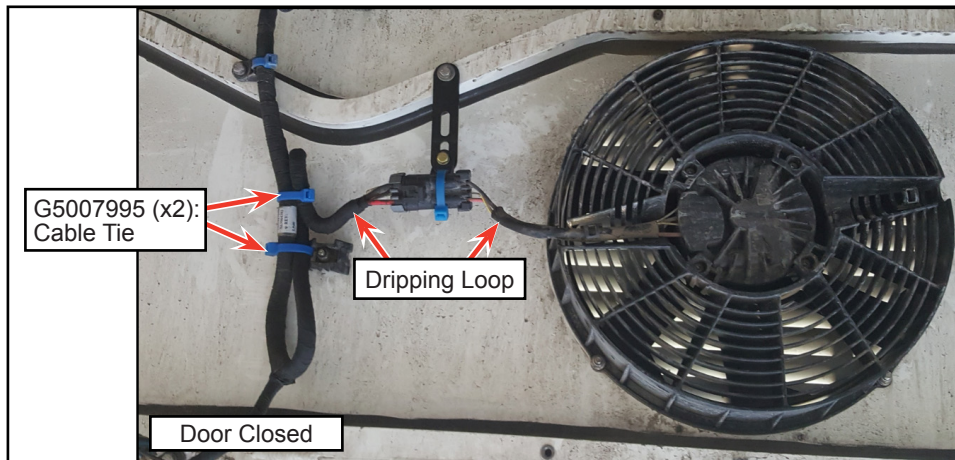

Figure 16 - Cable Tie (G5007995) Installation
1.31. Install the wiring harness with two cable ties G5007995 (see Figure 16).